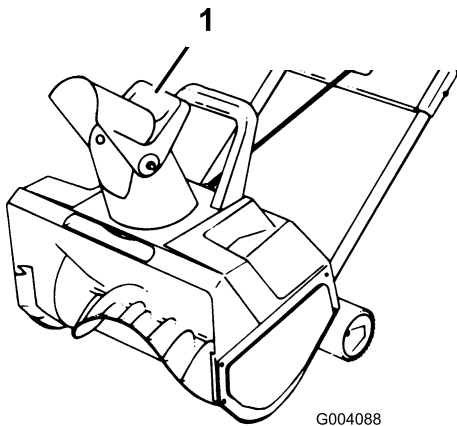

Figure 10
- To adjust the height of the snow stream, raise or lower the chute deflector handle (Figure 10).